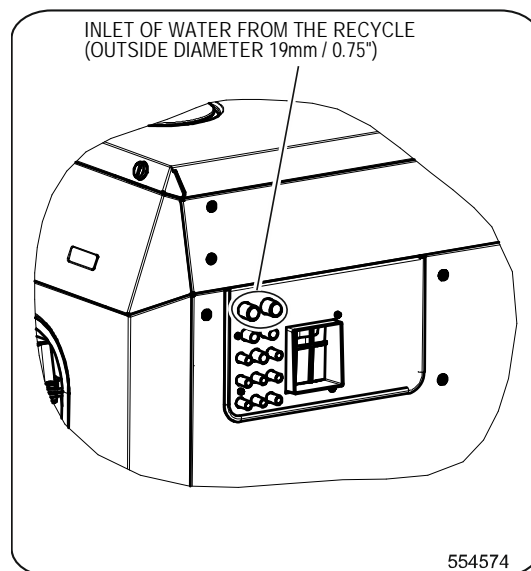

Figure 15
- Drill out the protective screens of the water inlet from the recycle utilizing a drilling bit of 15mm / 0.59" diameter, see Figure 15. We do not recommend piercing the screens open - it could lead to blockage of the water channel.